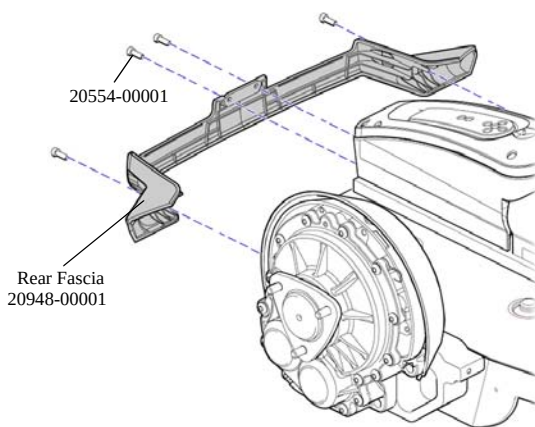

Figure 6-2: Remove or Install Rear Fascia
2. Use 4mm hex wrench to remove (4) fasteners from rear fascia. See Figure 6-2.
2. Thread (4) 4mm fasteners (20554-00001) into fascia. See Figure 6-2.